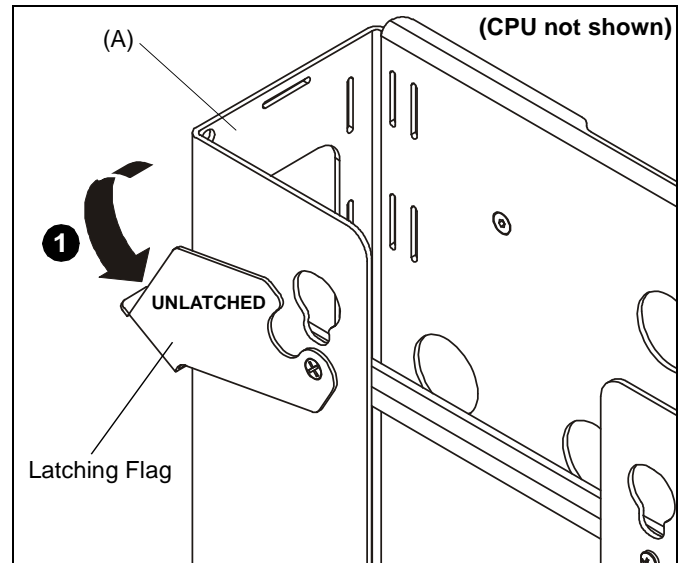

Figure 5
1. Make sure latching flag on CPU adapter is in the UNLATCHED position (See Figure 5).